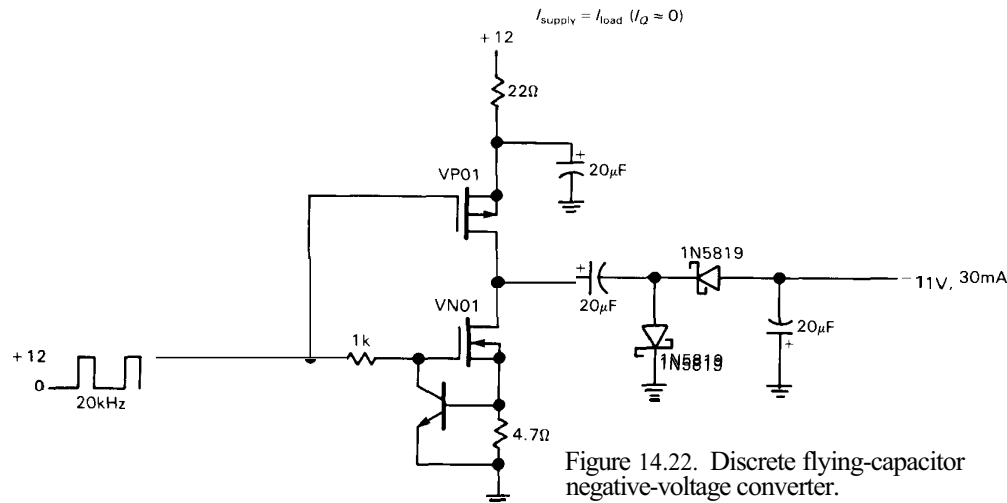

Figure 14.22. Discrete flying-capacitor negative-voltage converter.
2. To generate a larger negative voltage, you can use discrete MOS transistors in a flying-capacitor circuit (Fig. 14.22). The particular example shown idles at a few microamps and generates up to 30mA.